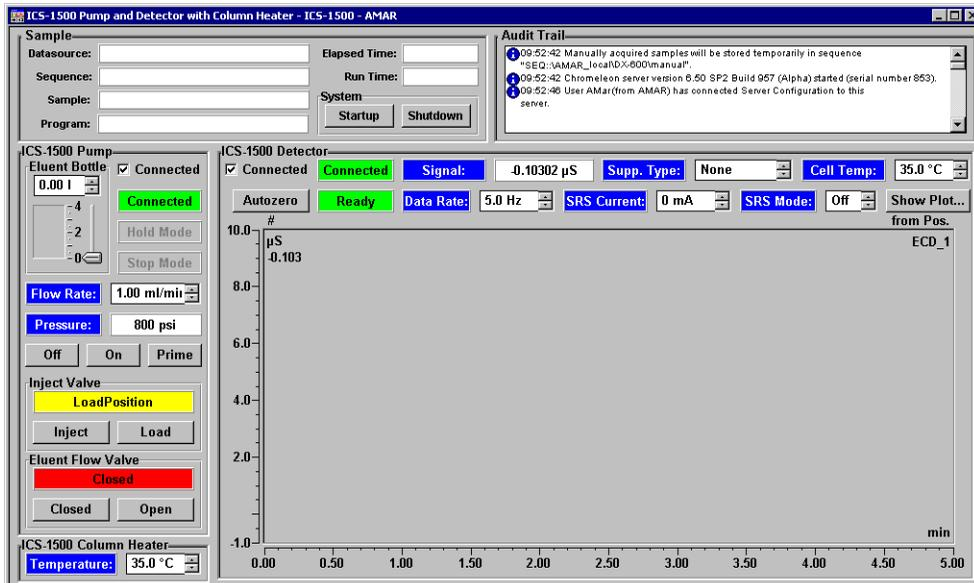

Figure 2-12. ICS-1500 System Control Panel (Traditional)
- Traditional system panels (see Figure 2-12) provide controls on a single window with minimal graphics.